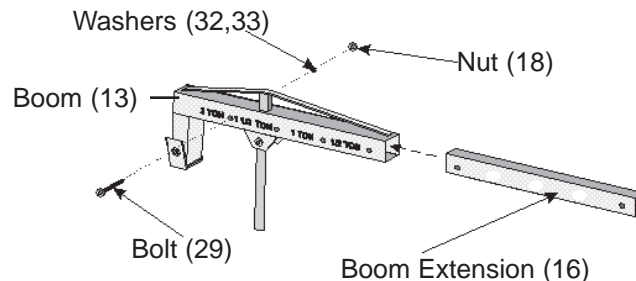

Figure 5-Assembling the Boom Extension
Step 9) Slide the Boom Extension (16) into the Boom (13). Note that there are different settings for the load. Secure the Boom Extension (16) at the setting **which exceeds the load** you will be lifting. Insert Bolt (29), Washer (32) and Spring Washer (33) and secure with Nut (18) - see Figure 5.
Step 1) Set the Boom Extension (16) to a weight limit setting **that exceeds the weight you will be lifting**. Do not exceed the Maximum 2 Ton weight capacity. Insert Bolt (29), Washer (32) and Spring Washer (33) and secure with Nut (18) - see Figure 5.
Step 3) Move the Crane so that the Hook (19) is directly above the item to be lifted. Make certain that the safety latch on the Hook (19) fully closes. Securely attach the Hook (19) to the item. Load must be secure in the Hook (19) with the safety latch fully closed. Make certain that the load is sustained with chains or slings before using the Crane to lift it.